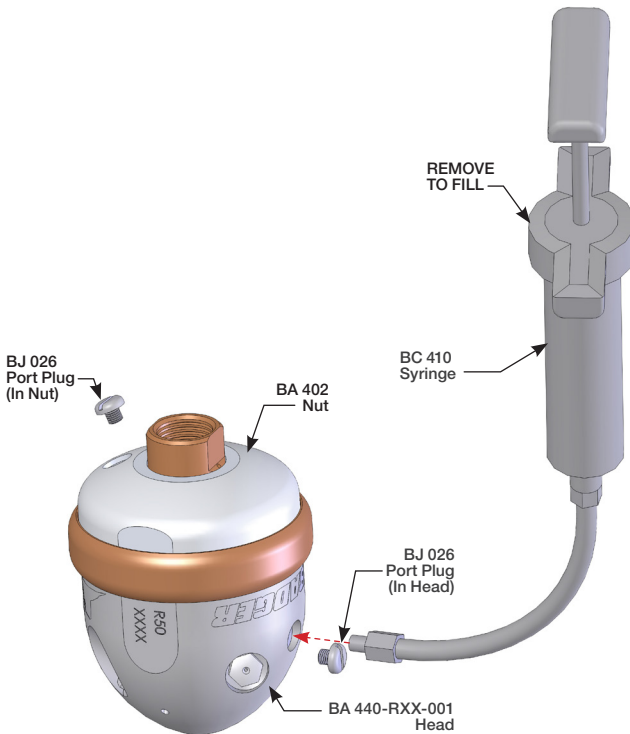

Figure 1: Viscous Fluid Flush
1. Remove the Port Screws in the Nut and Head (see Figure 1).